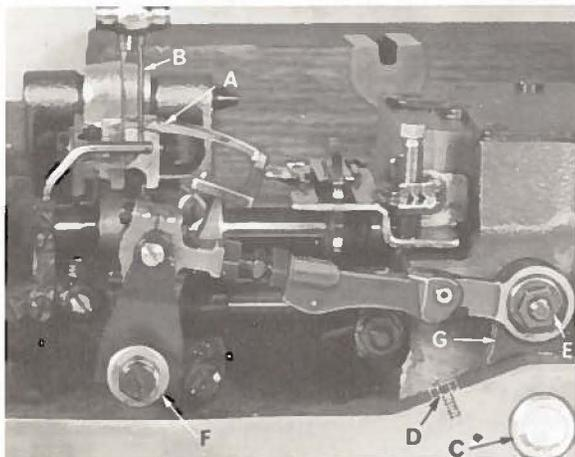
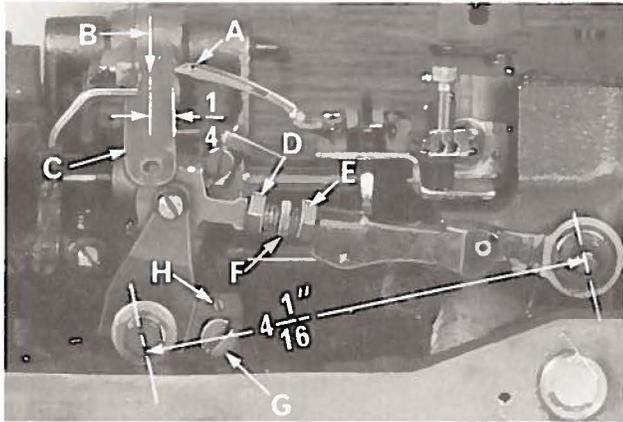

Fig. 5
Fig. 6
Insert the looper in the looper rocker and turn handwheel in operating direction until the point of the looper (A, Fig. 5), moving to the left is even with the left side of right needle (B). Note the height of the eye of the needle with respect to the looper point, then turn handwheel in the reverse direction until the looper point again moves to the left, and is even with the left side of the right needle. If the motions synchronize, the height of the eye of the needle with respect to the looper point will be the same. A variation of .005 inch is allowable. If the distance from the eye of the needle to the point of the looper is greatest when the pulley is turned in the operating direction, move the looper drive shaft synchronizing stud (C) to the rear. Moving it in the opposite direction acts the reverse.
Moving of the looper drive lever shaft synchronizing stud is accomplished as follows: Loosen the clamp screw (D, Fig. 5) of the looper drive lever. To move stud to rear (away from operator), a light tap with a small hammer, directly on the stud, is all that is required. To move stud forward (toward operator), remove the cloth plate, throat plate support, oil reservoir top cover and oil reservoir back cover, then, a light tap on the looper drive lever rocker shaft, toward the operator, is all that is required. Then, using the looper drive lever to take up the end play between the looper drive lever rocker shaft and its synchronizing stud, tighten the looper drive lever on the shaft, using screw (D, Fig. 5).
With the looper at the extreme right end of its travel, check the location of the center line of the right looper connecting rod bearing, using gauge No. 21227 CX. Remove nut (E, Fig. 5) and place hole in gauge over threaded stud. The left end of the gauge should locate against the right side of the looper rocker cone (F). If adjustment is necessary, loosen the clamp screw (D) and reposition the looper drive lever (G) as required. Tighten clamp screw. If gauge is not available setting can be checked with a scale. The distance between the centerline of the looper rocker cone and the center line of the looper lever stud should be $4 \frac{1}{16}$ inch (Fig. 6).
Insert a new needle in the right needle seat, type and size as specified. If the looper gauge is $\frac{1}{4}$ inch, for example, set the looper (A, Fig. 6) so the distance from the center of the right needle (B) to the point of the looper is $\frac{1}{4}$ inch, when the looper is at its farthest position to the right. Looper gauge No. 21225- $\frac{1}{4}$ (C) can be used advantageously in making this adjustment. Refer to chart on the following page for needle Type, looper gauge setting and looper gauge number for the various styles of machines. If adjustment is required, loosen nut (D) (it has a left hand thread) and nut (E) on connecting rod (F), turn the connecting rod forward or backward to obtain the $\frac{1}{4}$ inch dimension. Retighten both nuts, first nut (E). Then nut (D). Make sure the left ball joint is in vertical
If adjustment is necessary, loosen lock screw (G, Fig. 6) and turn stop screw (H) as required. Turning stop screw clockwise sets the looper to the rear and turning it counterclockwise acts the reverse. Holding looper to the front while making this adjustment may prove helpful. Tighten lock screw when setting is obtained and recheck the adjustment. Now insert another needle in the left needle seat.